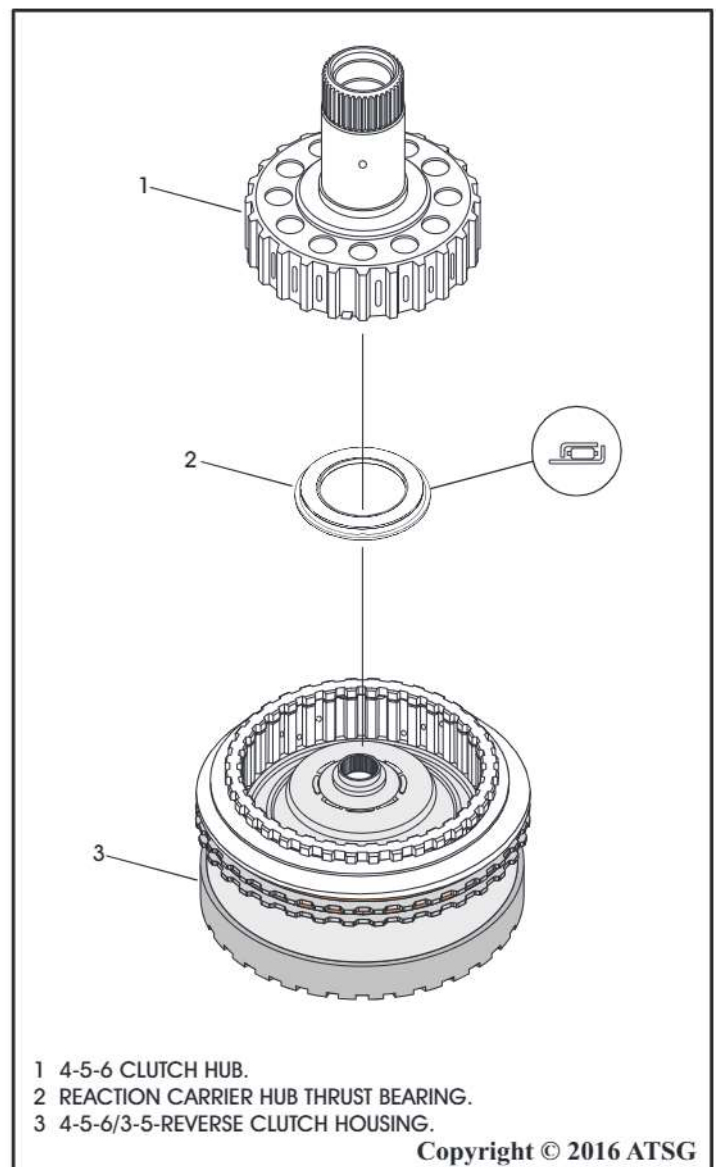

Figure 117
80. Lubricate the reaction carrier hub thrust bearing with transmission fluid and install it with the wide side down against the 4-5-6/3-5-Reverse housing as shown in Figure 117.
81. Install the 4-5-6 clutch hub as shown in Figure 117.